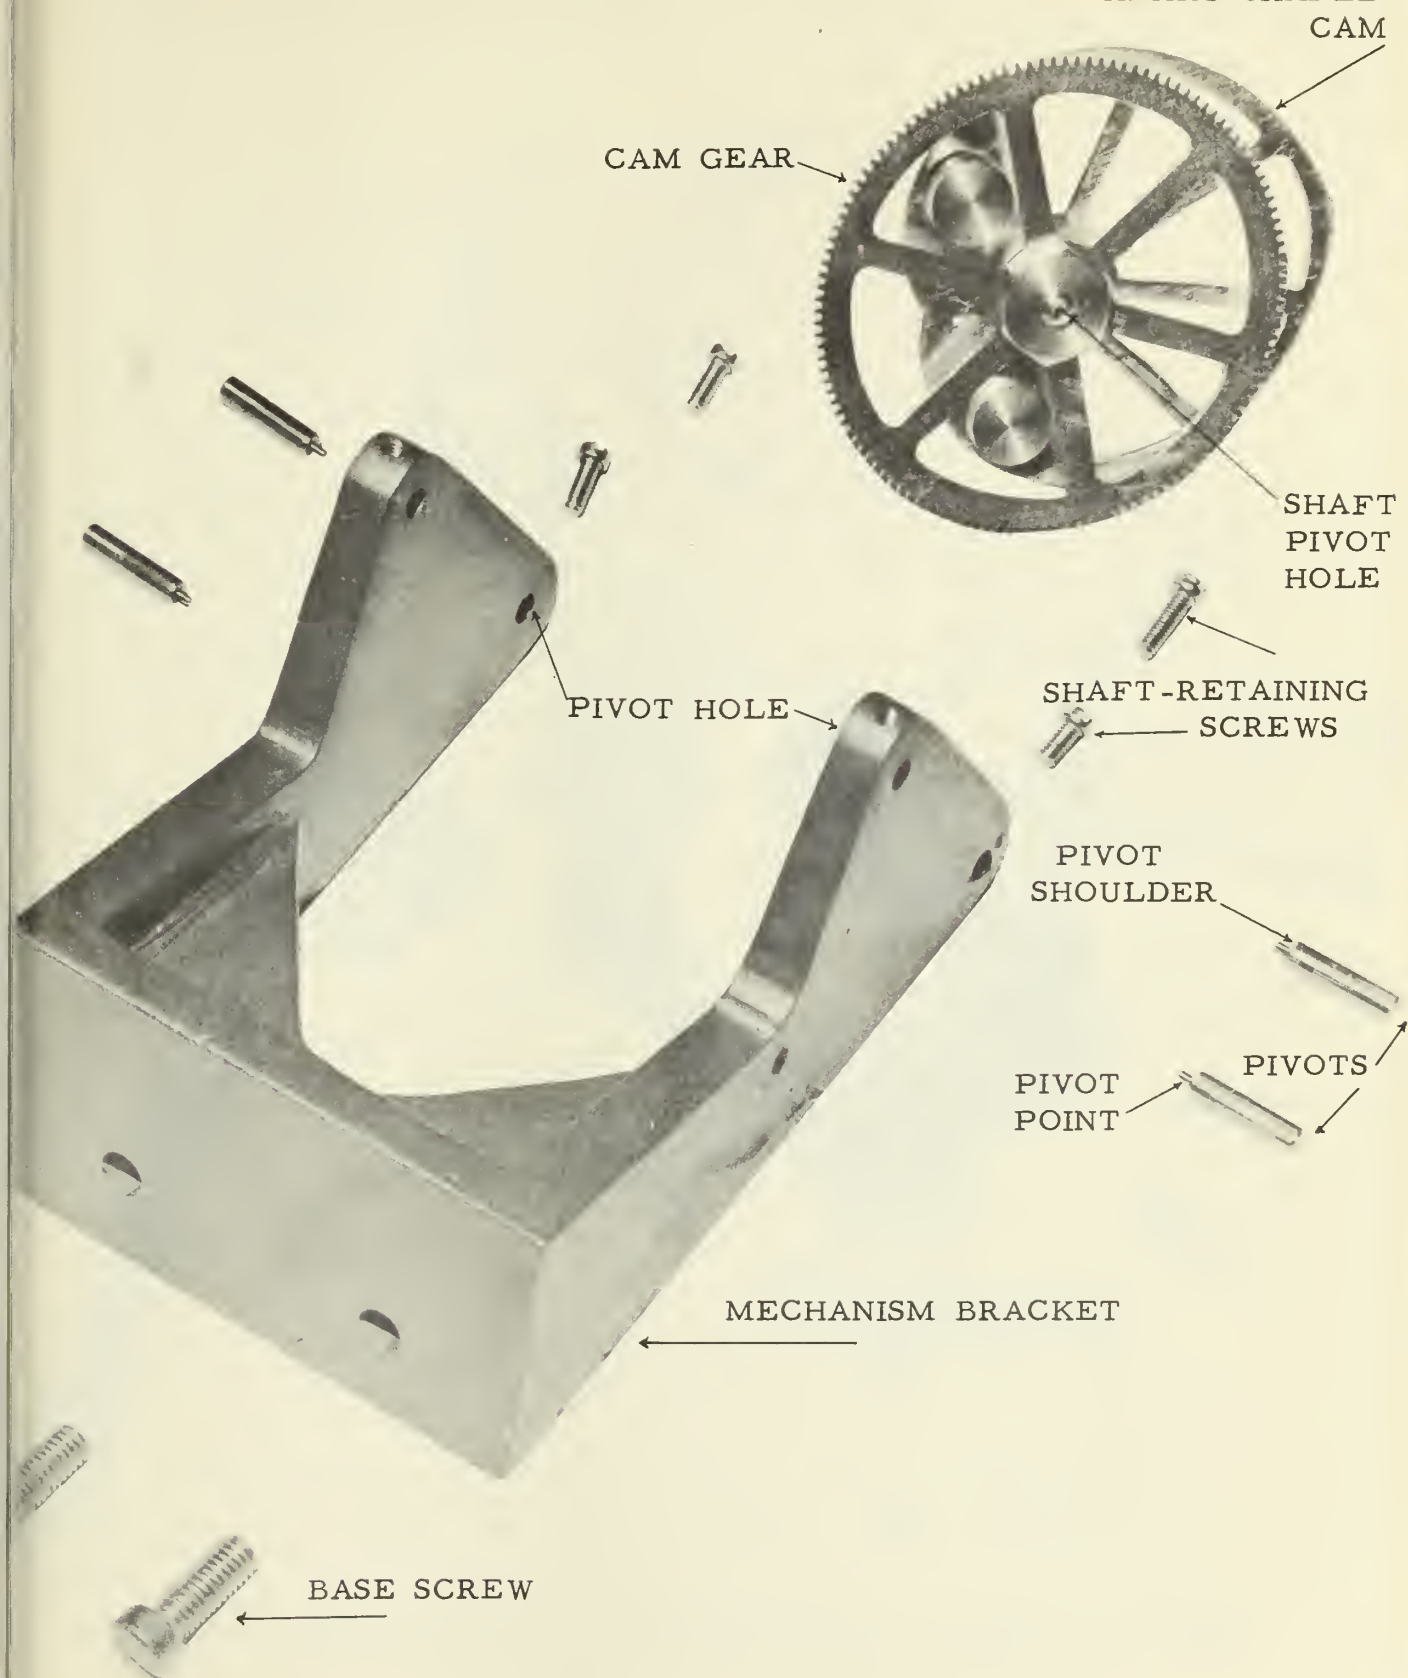

Figure 5.--Type A. Mechanism bracket and cam gear, detail of parts.
19. Mechanism bracket (figs. 5 and 6):
20. Cam gear and heart-shaped cam (figs. 5 and 6):